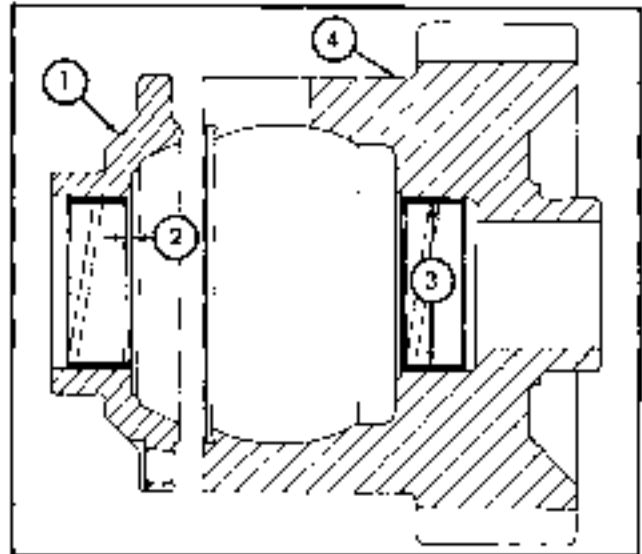

Fig. 1-32. Bushing in cage and cover
- b. Renew bushings in cage and cover if they are worn. Press in new bushings to position shown in Fig. 1-32. Renew bushings to obtain inside diameter indicated in Fig. 1-32.